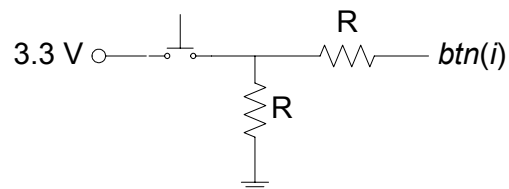

Figure 1.4 Pushbutton connection
- 1.1 The four pushbuttons on the BASYS and Nexys-2 boards are connected to pins on the FPGA using the circuit shown in Fig. 1.4. The value of *R* is 4.7 k $\Omega$  on the BASYS board and 10 k $\Omega$  on the Nexys-2 board. When the pushbutton is up the two resistors pull the input down to ground and the input *btn(i)* to the FPGA is read as a logic 0. When the pushbutton is pressed the input is pulled up to 3.3 V and the input *btn(i)* to the FPGA is read as a logic 1. Create a *.bde* file using Active-HDL that will connect the four pushbuttons to the rightmost four LEDs. Compile and implement the program. Download the *.bit* file to the FPGA board and test it by pressing the pushbuttons.